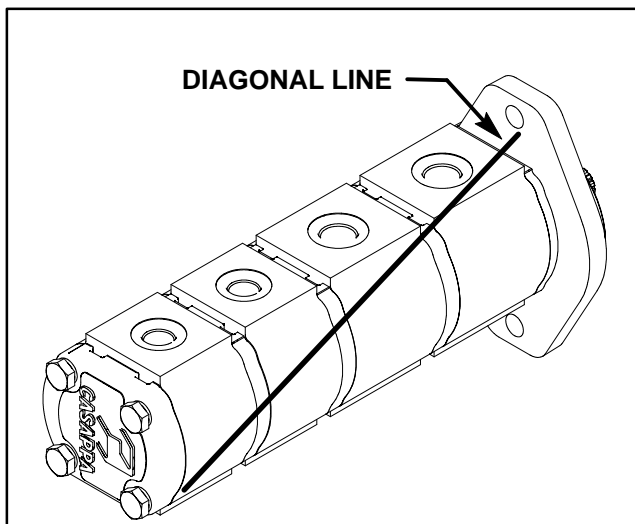

Figure 63
2. Use a marker to make a **diagonal** line across the gear pump for assembly purposes (Fig. 63).